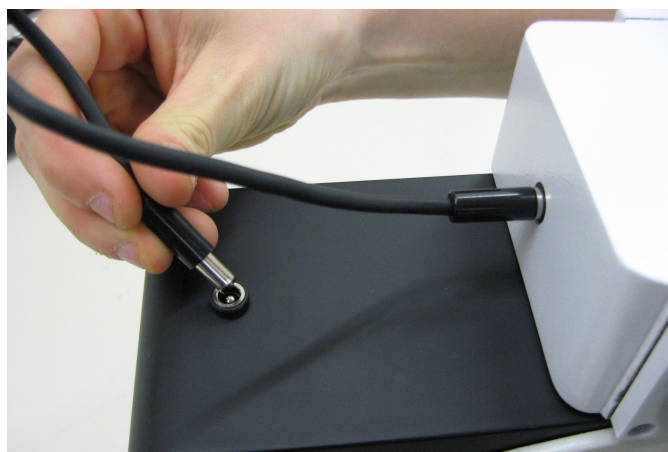

Fig. 2
2.3 In order to use the green arrow which will be used as a pointer, it is mandatory to turn on the main switch of the microscope body. Connect one terminal of the provided cable into the back side of the splitter and the other terminal into the connector placed on the upper part of the microscope. (Fig. 2). Now use the pointer position controller (1) or the pointer intensity controller (2) to adapt to specific needs position and intensity of the pointer.